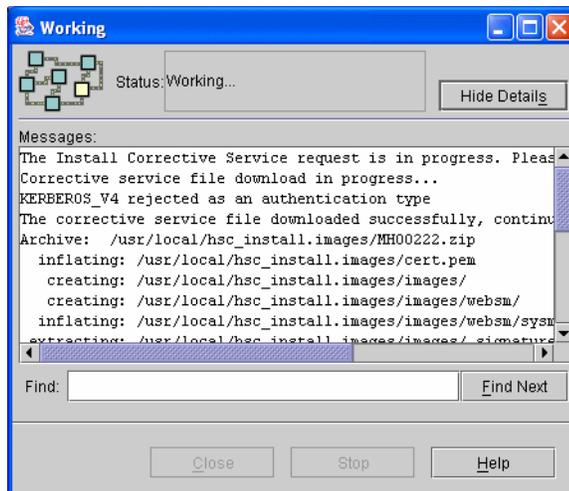

Figure 14-24 HMC fix install working screen
5. The HMC working panel appears showing the status of the install process (Figure 14-24). The HMC fix data is inflated and then installed on the HMC.